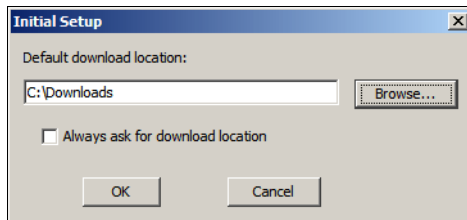

Figure A-13 Download Director - Initial Setup
- b. You will then be asked to specify a default location for all downloads using the Download Director as shown in Figure A-13. Click the **Browse** button to change the folder location. Click **OK** when you have chosen the download location.